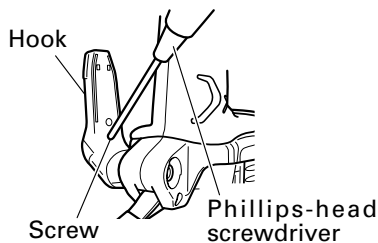

Fig. 13
- (1) Loosen the hook screw with a phillips-head screwdriver (No. 1). (Fig. 13)